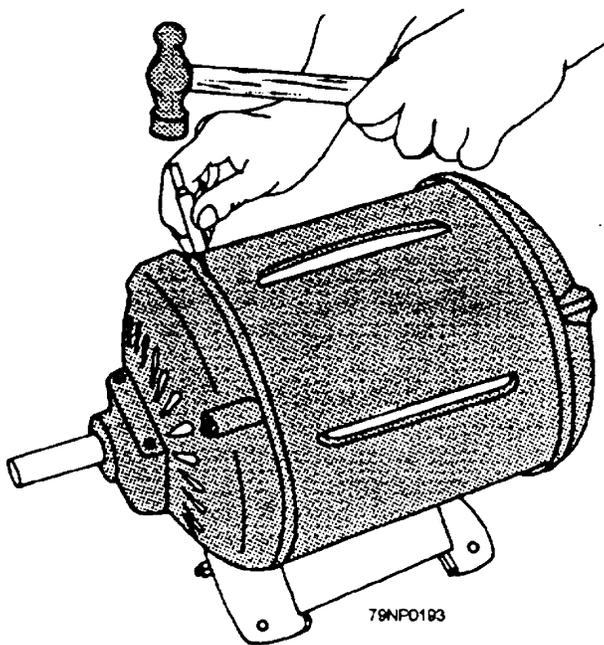

Figure 7-23.—Marking a motor frame and end bell.
1. Make sure you mark the frame and mating end bells (fig. 7-23), using a different mark for each end